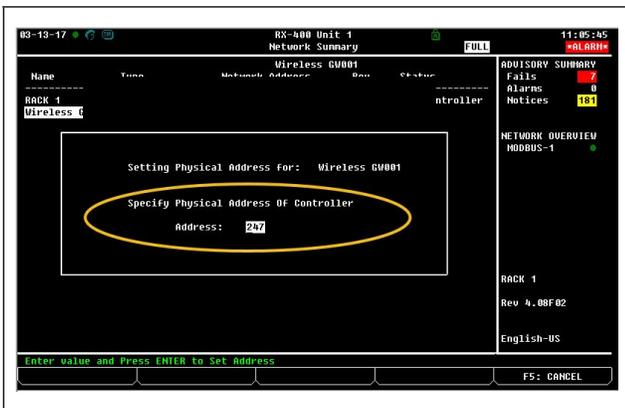

Figure 3-5 - MODBUS Address Configuration
- Press **Enter** to complete Commissioning when the screen looks like Figure 3-5.